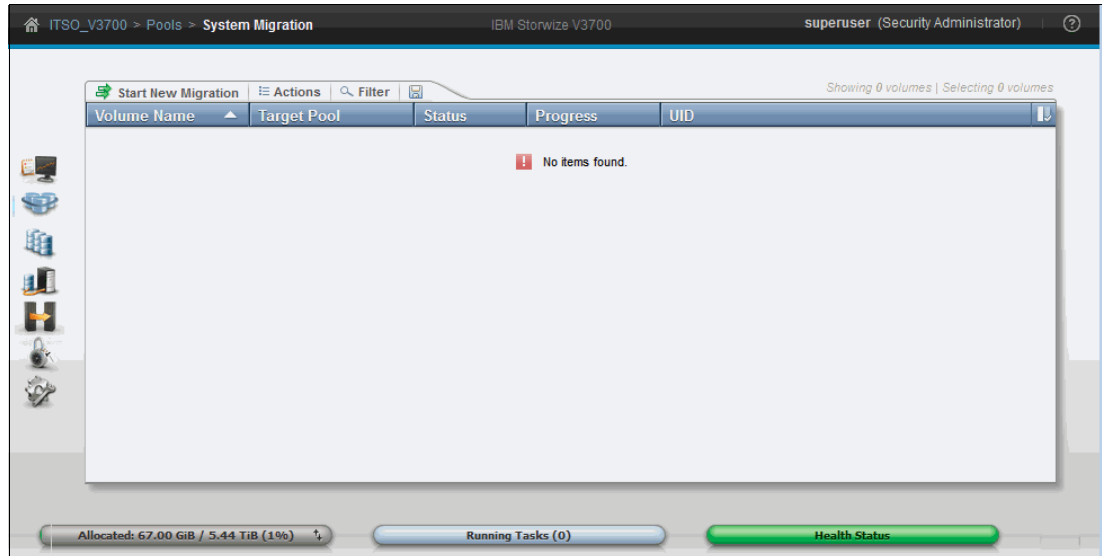

Figure 6-13 System Migration pane
2. Click **Start New Migration** to begin the storage migration wizard. Figure 6-13 shows the System Migration pane.